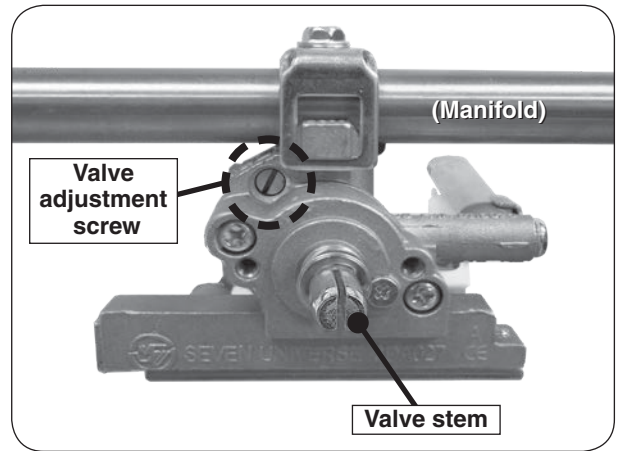

Fig. 36-1 Valve adjustment screw location
5. Locate the FLATHEAD adjustment screw found above the valve stem and below the manifold (see Fig. 36-1).